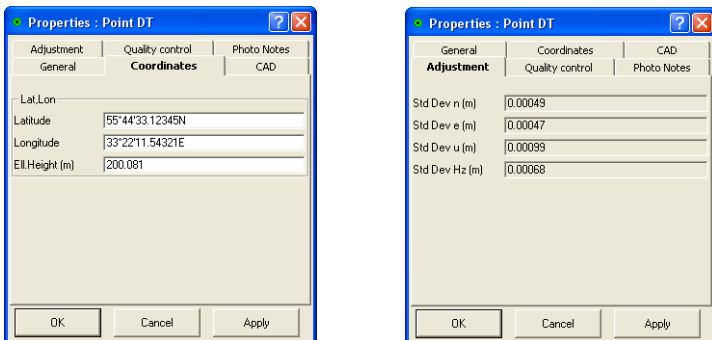

Figure 5-97. Coordinates and Adjustment Properties
4. View or edit *Coordinates* tab fields (Figure 5-97). Available fields depend on the coordinate type selected in Job configuration.
5. View *Adjustment* tab fields for standard point deviations (Figure 5-97).